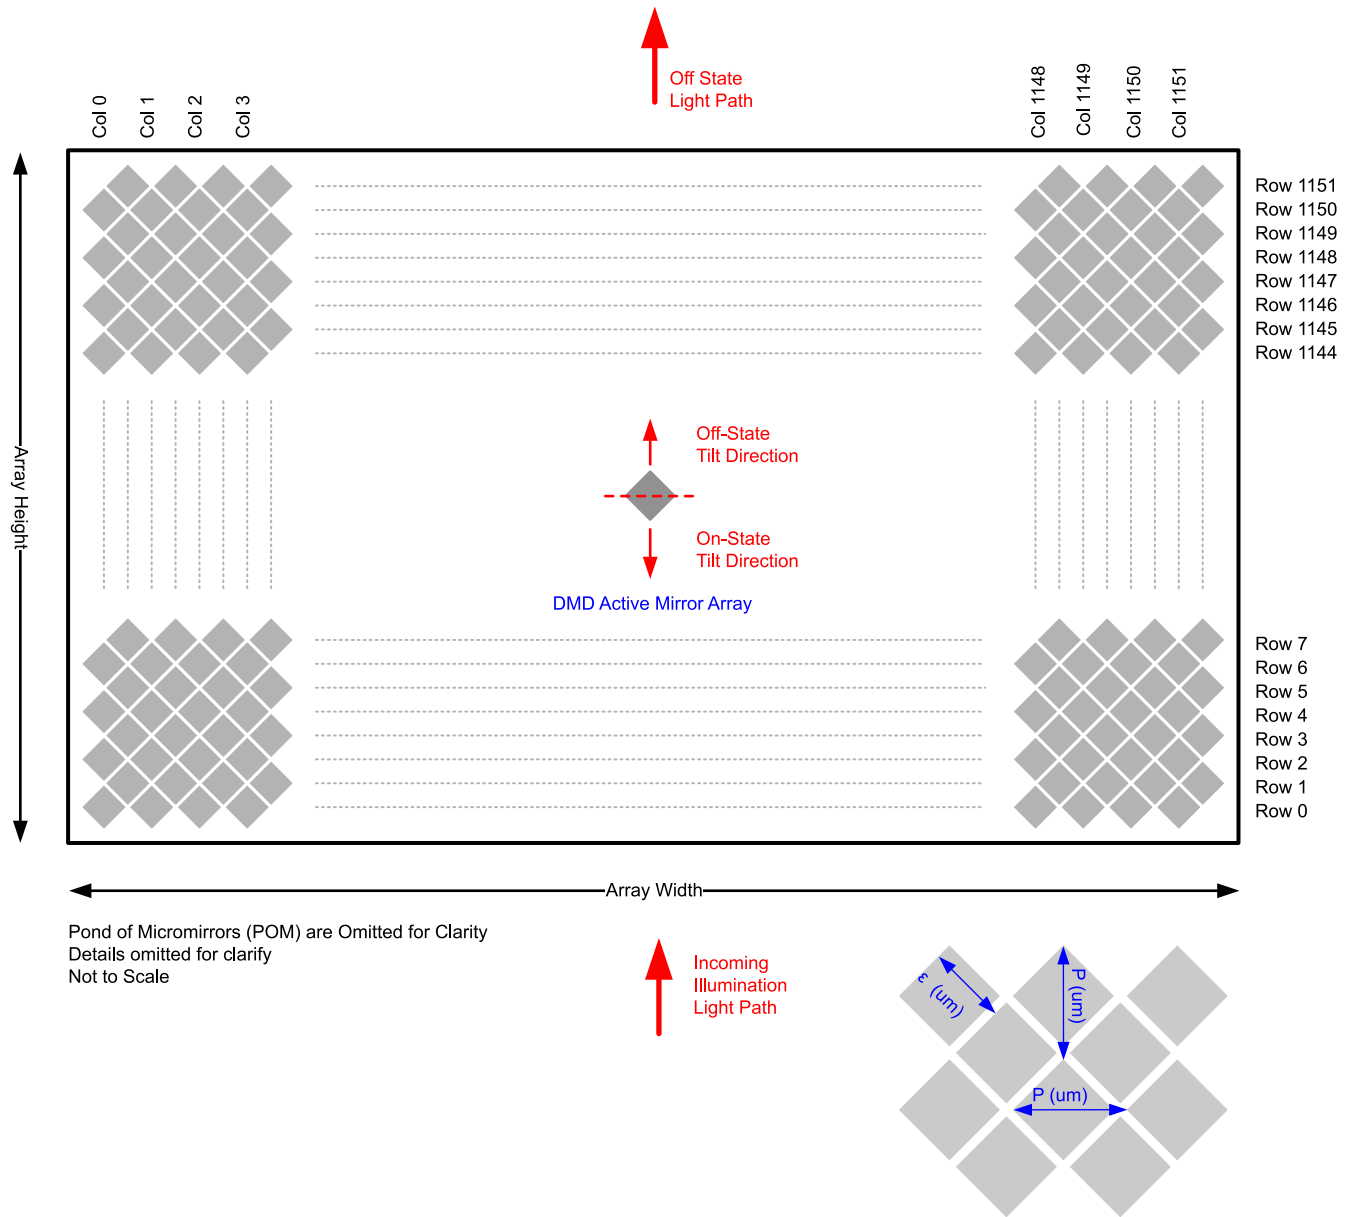

Figure 6-13. Micromirror Array Physical Characteristics
(1) See Figure 6-13
(2) The structure and qualities of the border around the active array includes a band of partially functional micromirrors called the POM. These micromirrors are structurally and/or electrically prevented from tilting toward the bright or ON state, but still require an electrical bias to tilt toward OFF.
The DLP5530S-Q1 Automotive DMD consists of 1,327,104 highly reflective, digitally switchable, micrometer-sized mirrors organized in a two-dimensional array. As shown in Figure 6-13, the micromirror array consists of 1152 micromirror columns × 1152 micromirror rows in a diamond pixel configuration with a 2:1 aspect ratio.